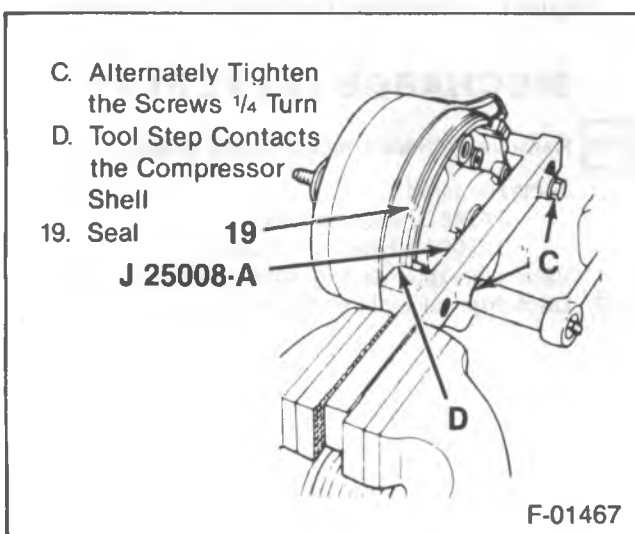

Figure 21—Removing the Shell
- Install J 25008-A with the step block protrusions engaging the compressor shell. Install the medium length metric thread mounting bolts through the holding fixture and thread them finger tight until the step of the fixture protrusions contact the shell (figure 21). Make sure the step protrusions do not overlap the cylinder, but will pass both sides.